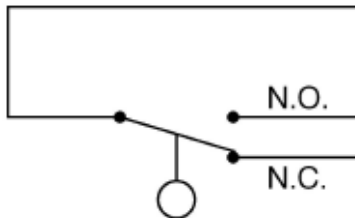

Fig. 2
2. SPDT reed switch: Connect wiring to proper switch leads or terminals per wiring diagram. See figure 2 or 5.